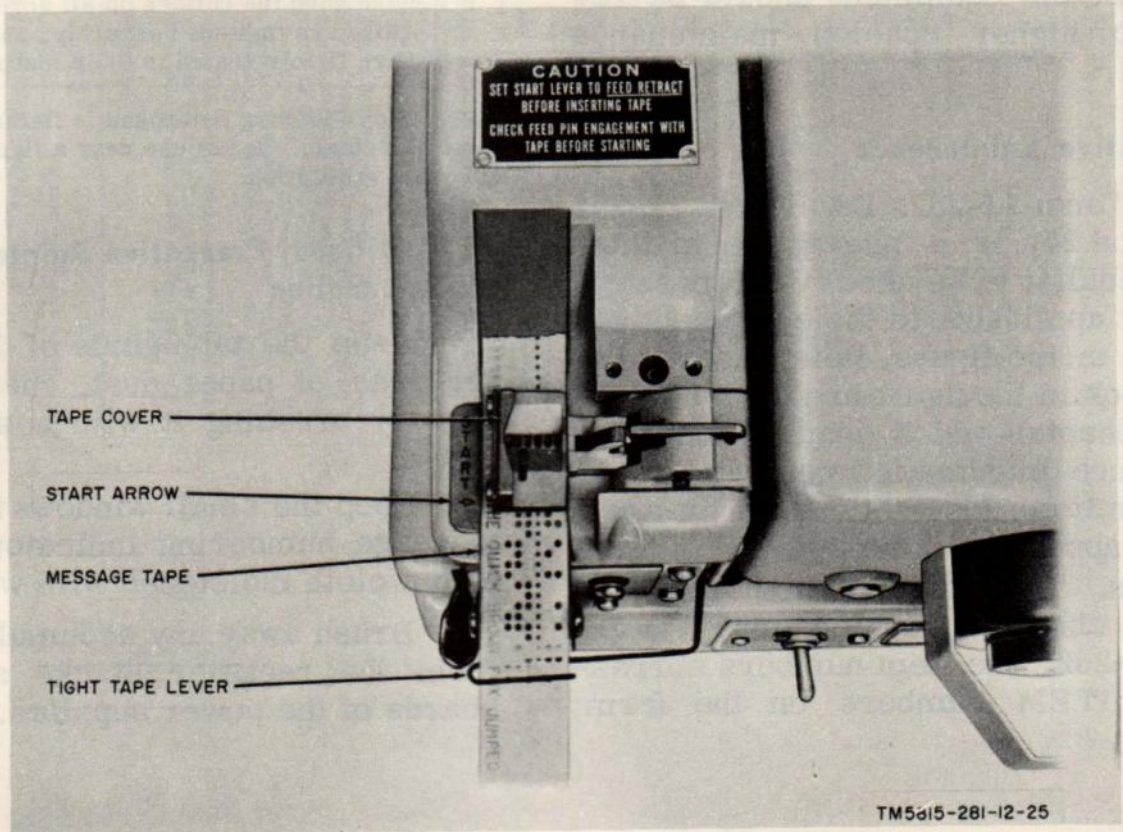

Figure 25. Message tape positioned in transmitter.
- (1) Move the stop-start lever to FEED RETRACT.
- (2) Press the tape cover closed; it will latch in the closed position.
- (3) Slide the message tape into the slot under the tape cover, so that the printing is up and to the left (fig. 25).
- (4) Align the arrow on the tape guide with the first printed letter to be transmitted. Make sure the message tape feed holes are properly aligned with the pins of the tape feed claw.
- (5) Move the stop-start lever to STOP. Apply a slight forward and then a rearward pull on the message tape to make sure the feed pins have properly engaged the feed holes.
- (6) Insert the tape into the slot of the tight-tape lever.